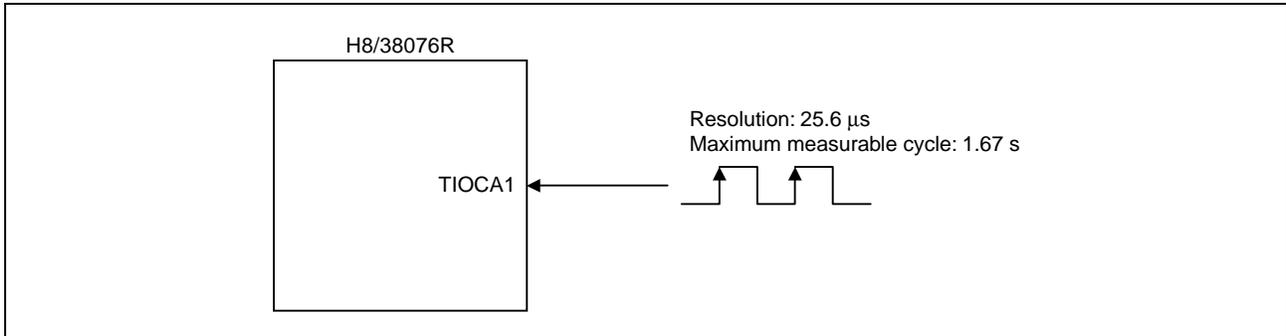

Figure 1 Example of Pulse Cycle Measurement Using TPU Input Capture Function
- An example of pulse cycle measurement by means of the input capture function is shown in figure 1.